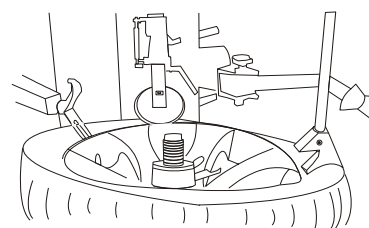

Fig 11
6. Press the tyre by the upper bead breaker roller and then press the turntable rotating pedal, upper bead mounting complete after turntable rotates one round. (Fig 11)